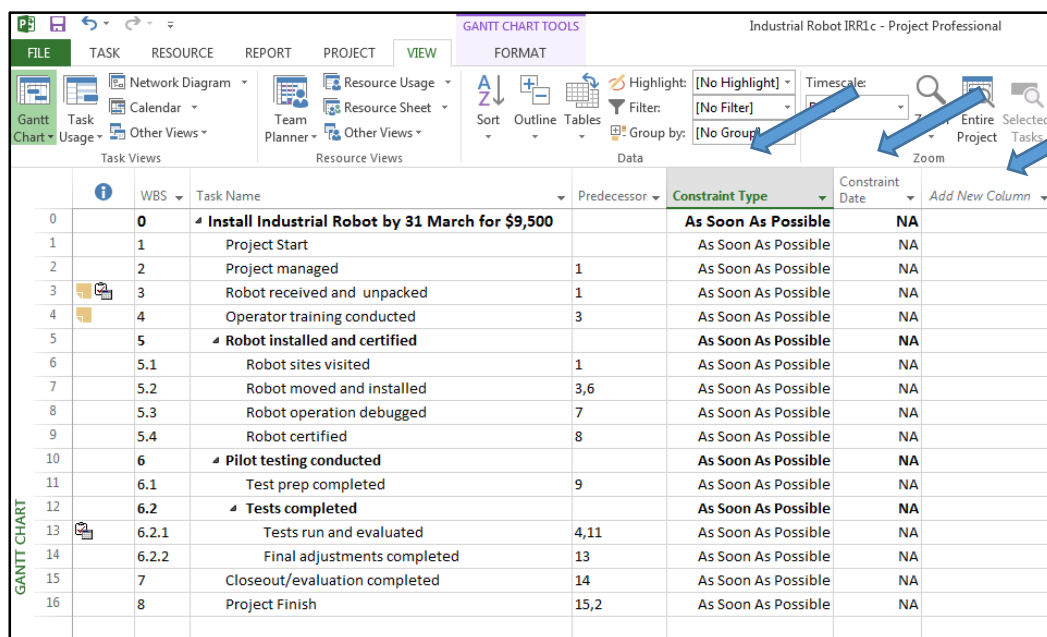

Figure 21
- To see all the constraint types and dates, select those columns from the Add New Column dropdown. (Figure 21)